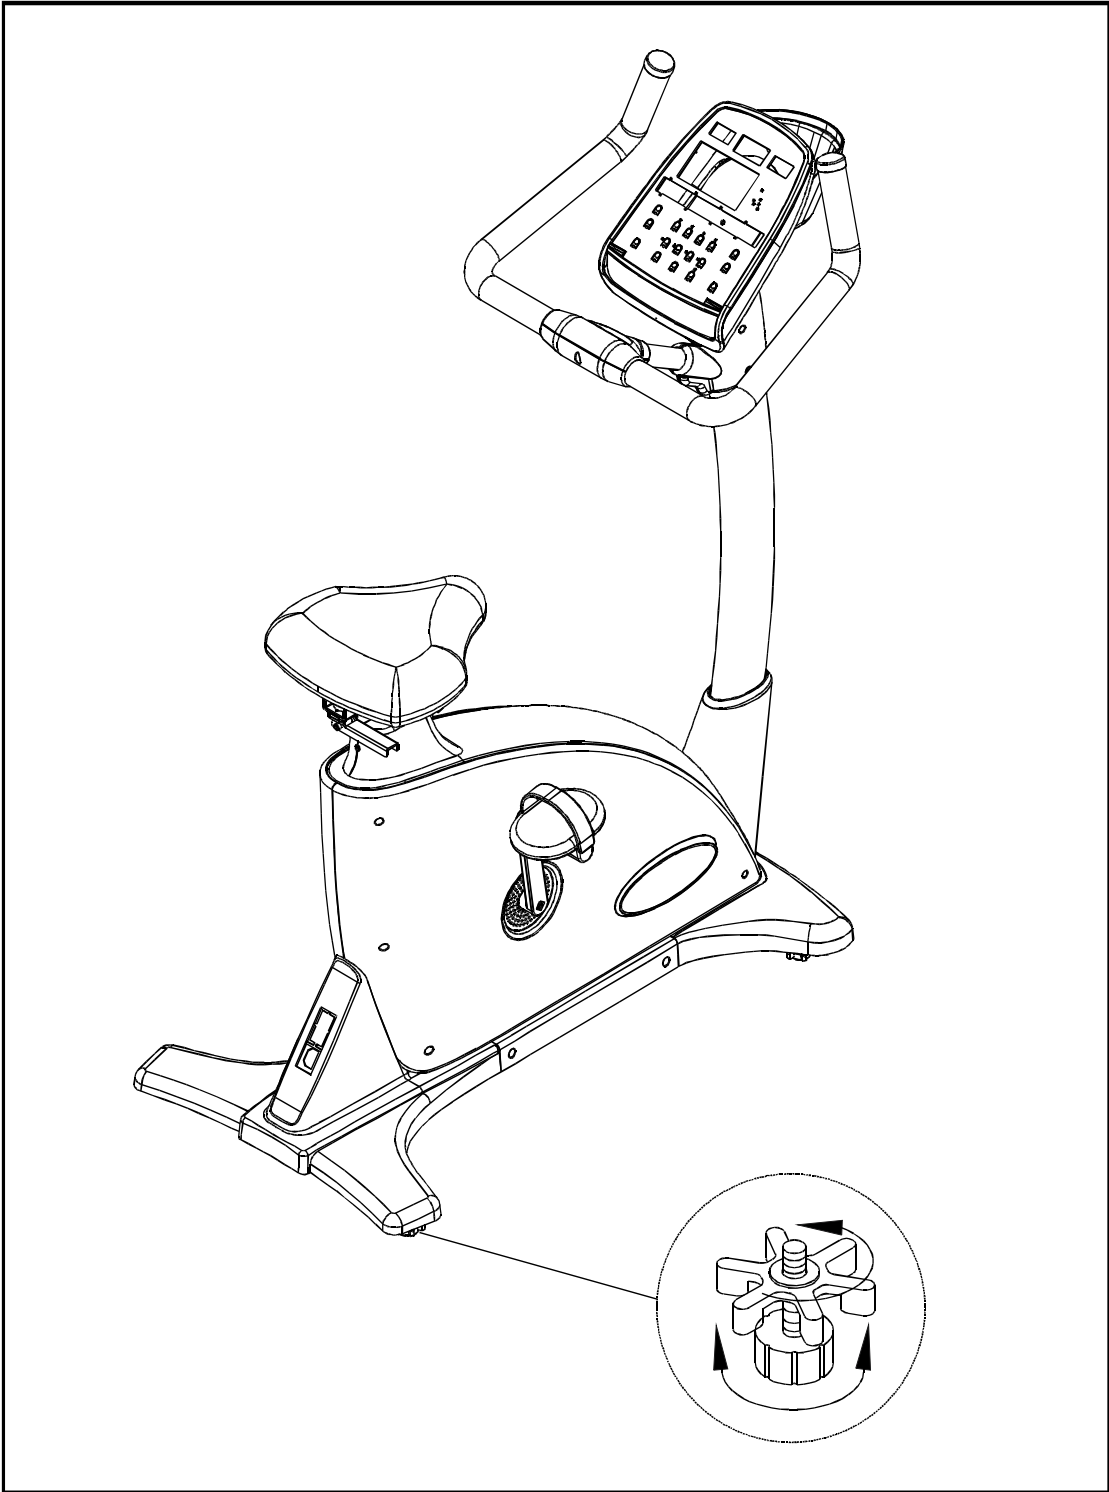

Fig.11
STEP 6. Level the bike as follows to ensure that it does not wobble. Rotate rubber leveler feet up or down as needed to stabilize the bike. Then rotate leveler nuts upward, against the frame, to secure this position. See Figure 11.